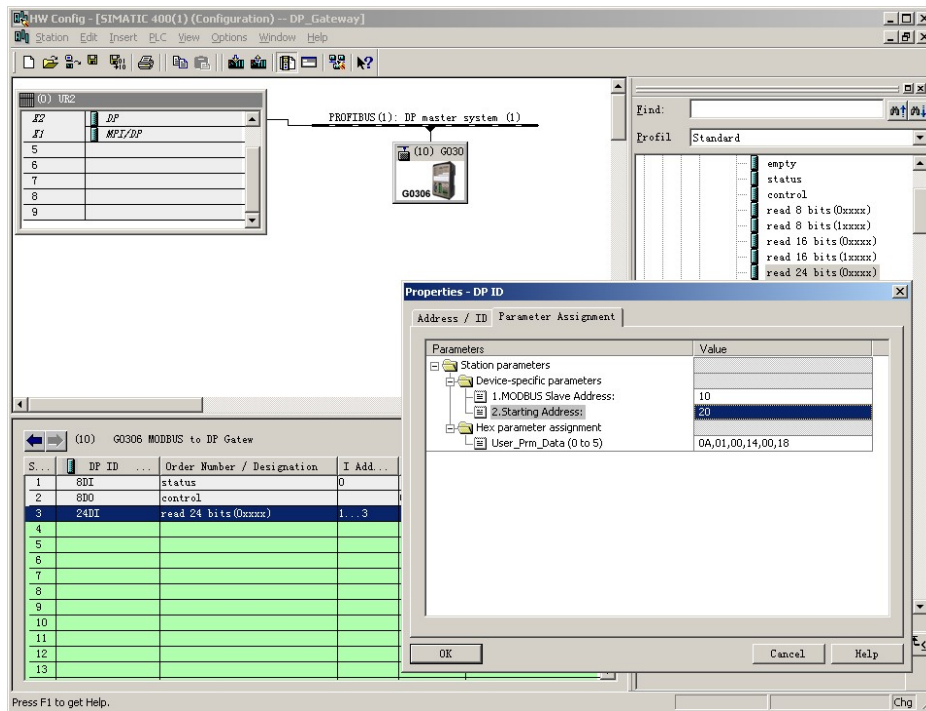

Figure 17 Configure "read 24 bits (0xxxx)" module user parameters
b) Configure the user parameters of the "read 24 bits(0xxxx)" module, as shown in Figure 17:
"1.MODBUS Slave Address:" ⇒ Type MODBUS slave address 10, as shown in Figure 17.
"2.Starting Address:" ⇒ Type in the starting address 00021 of the coil 0xxxx to be read, and set the address to 20 "OK", as shown in Figure 17.